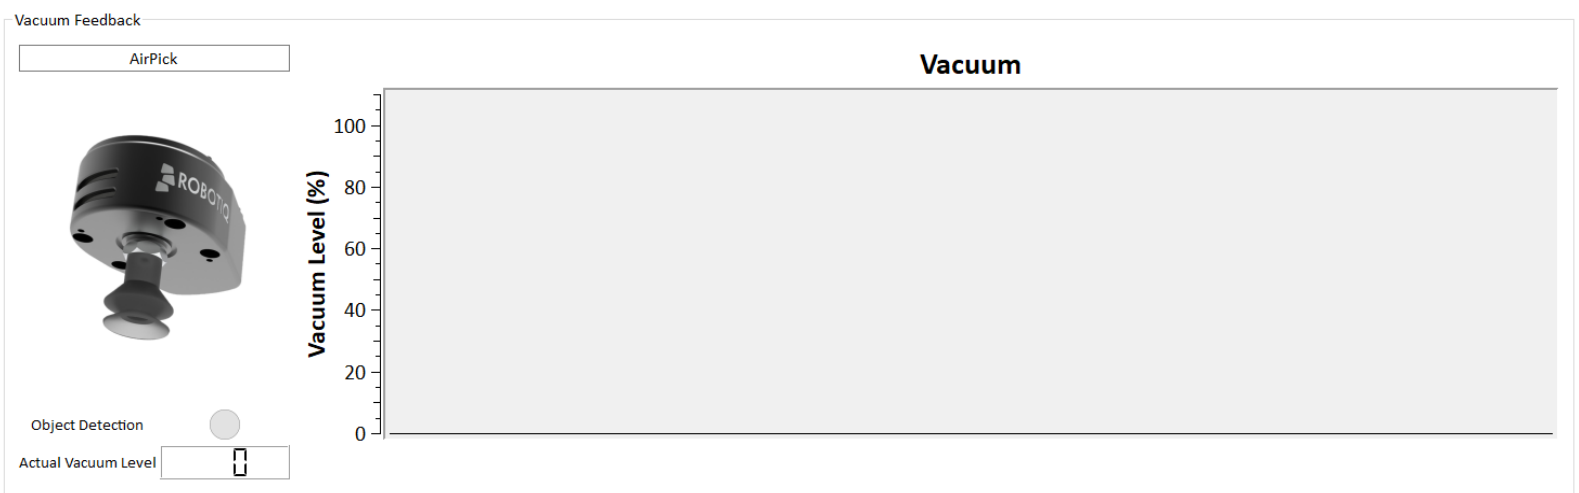

Fig. 5-16: Digital and visual displays of the vacuum.
- **Object Detection:** If the Gripper detects an object, the "Object Detection" display turns yellow (Fig. 5-16:).
- **Actual Vacuum Level** (numeric): The digital display of "Vacuum" shows the level of vacuum as designated on a scale of 0 to 255 (see Fig. 5-16: and your Gripper Instruction Manual for details).
- **Vacuum** (graphic): The visual display of "Vacuum" shows the real-time level of vacuum graphically (Fig. 5-16:).